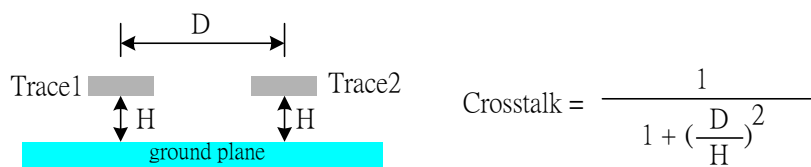

Figure 13-2 Approximate equation to estimate crosstalk
2. Avoid routing of S/PDIF-IN trace parallel to S/PDIF-OUT. Figure 13-2 shows an approximate equation to minimize crosstalk, distance (H) with reference plane must be minimized, and distance (D) between traces must be maximized. (Refer to "High Speed Digital Design". Johnson, H. W., and M. Graham. 1993. Englewood Cliffs, NJ: Prentice Hall)